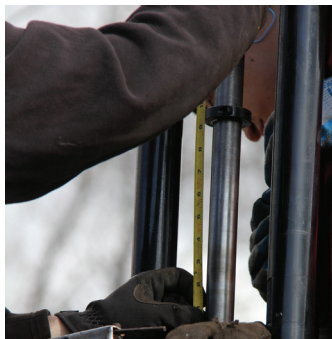

Figure 44
**4.2.2)** Slide a stop collar onto the saw mandrel and use this stop collar as your mechanical stop for tapping depth. The stop collar should be set at a distance equal to half the outside diameter of the pipe that is to be tapped (for example, use 8.70" for a pipe that measures 17.4" in OD or 7.65" for a pipe that measures 15.3" OD (see Figure 44).